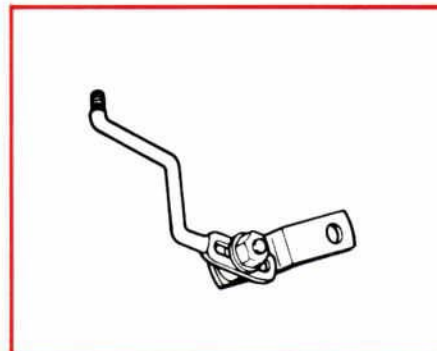

Figure 26—The Location of the Shift Rod Adjustment Nut at the Left Side of the 1970-71 C6 Transmission.
- To make the adjustment (see Figure 26), place the selector lever pawl against the drive gate stop. Now, raise the car and loosen the shift rod adjustment nut.